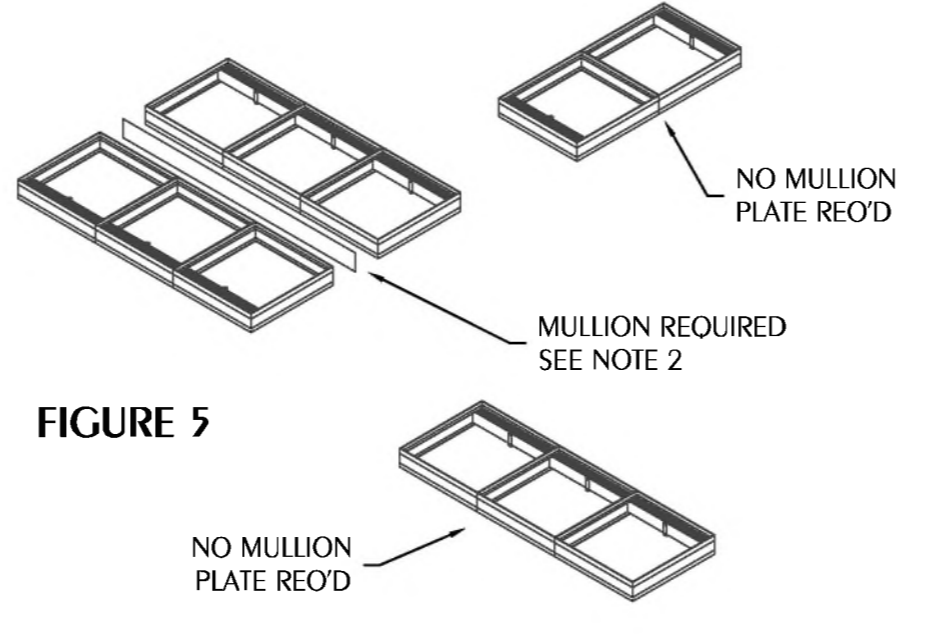

FIGURE 5
Multiple section horizontal mount dampers require a 1/4" gage thick x 41/2" (2 x 114) wide steel reinforcing plate sandwiched between the damper frames with 1/2" (13) long welds staggered intermittently and spaced on maximum 6" (152) centers. The reinforcing plate must be the same material as the dampers. The length must be equal to the damper width of two or more adjoining damper sections. Reinforcing plates are not required for assemblies consisting of two dampers attached end-to-end or three dampers attached side-to-side as depicted in figure 5.